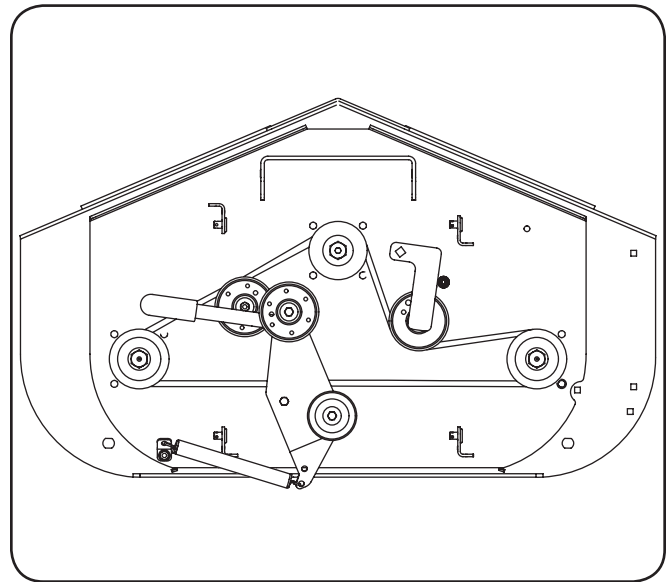

Figure 1-5
5. Reverse the process to install the belt. See Figure 1-5 for proper belt routing.